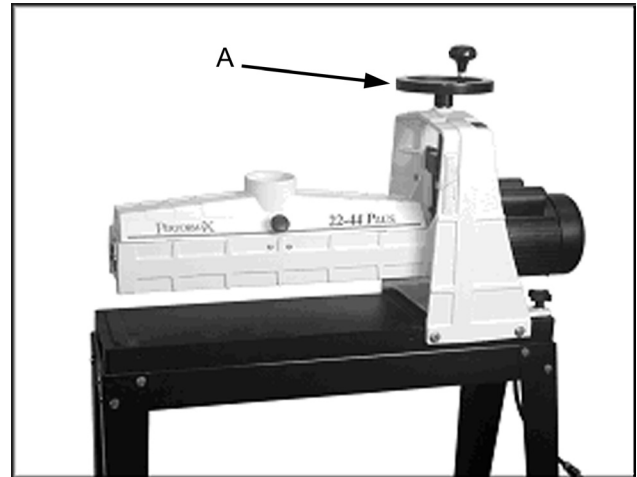

Fig. 1
1. Attach the handwheel (Fig. 1, Item A) to the height adjustment screw and tighten with the 4mm Allen wrench supplied.